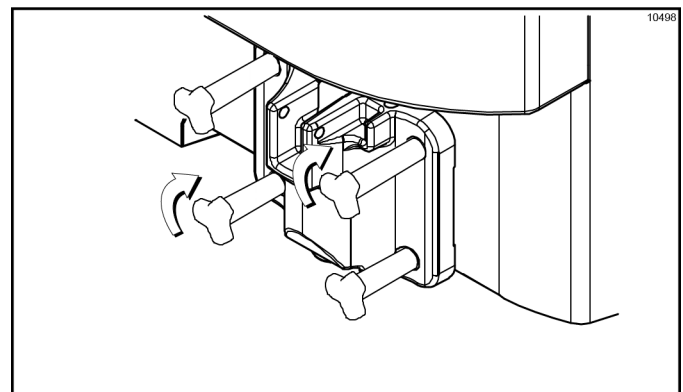

Figure 6-13
6. Insert the baffle rod through the beater in the freezing cylinder. With the door seated on the freezer studs, install the handscrews, with the longer ones on top. Tighten equally in a crisscross pattern to ensure the door is secured. (See Figure 6-13.)